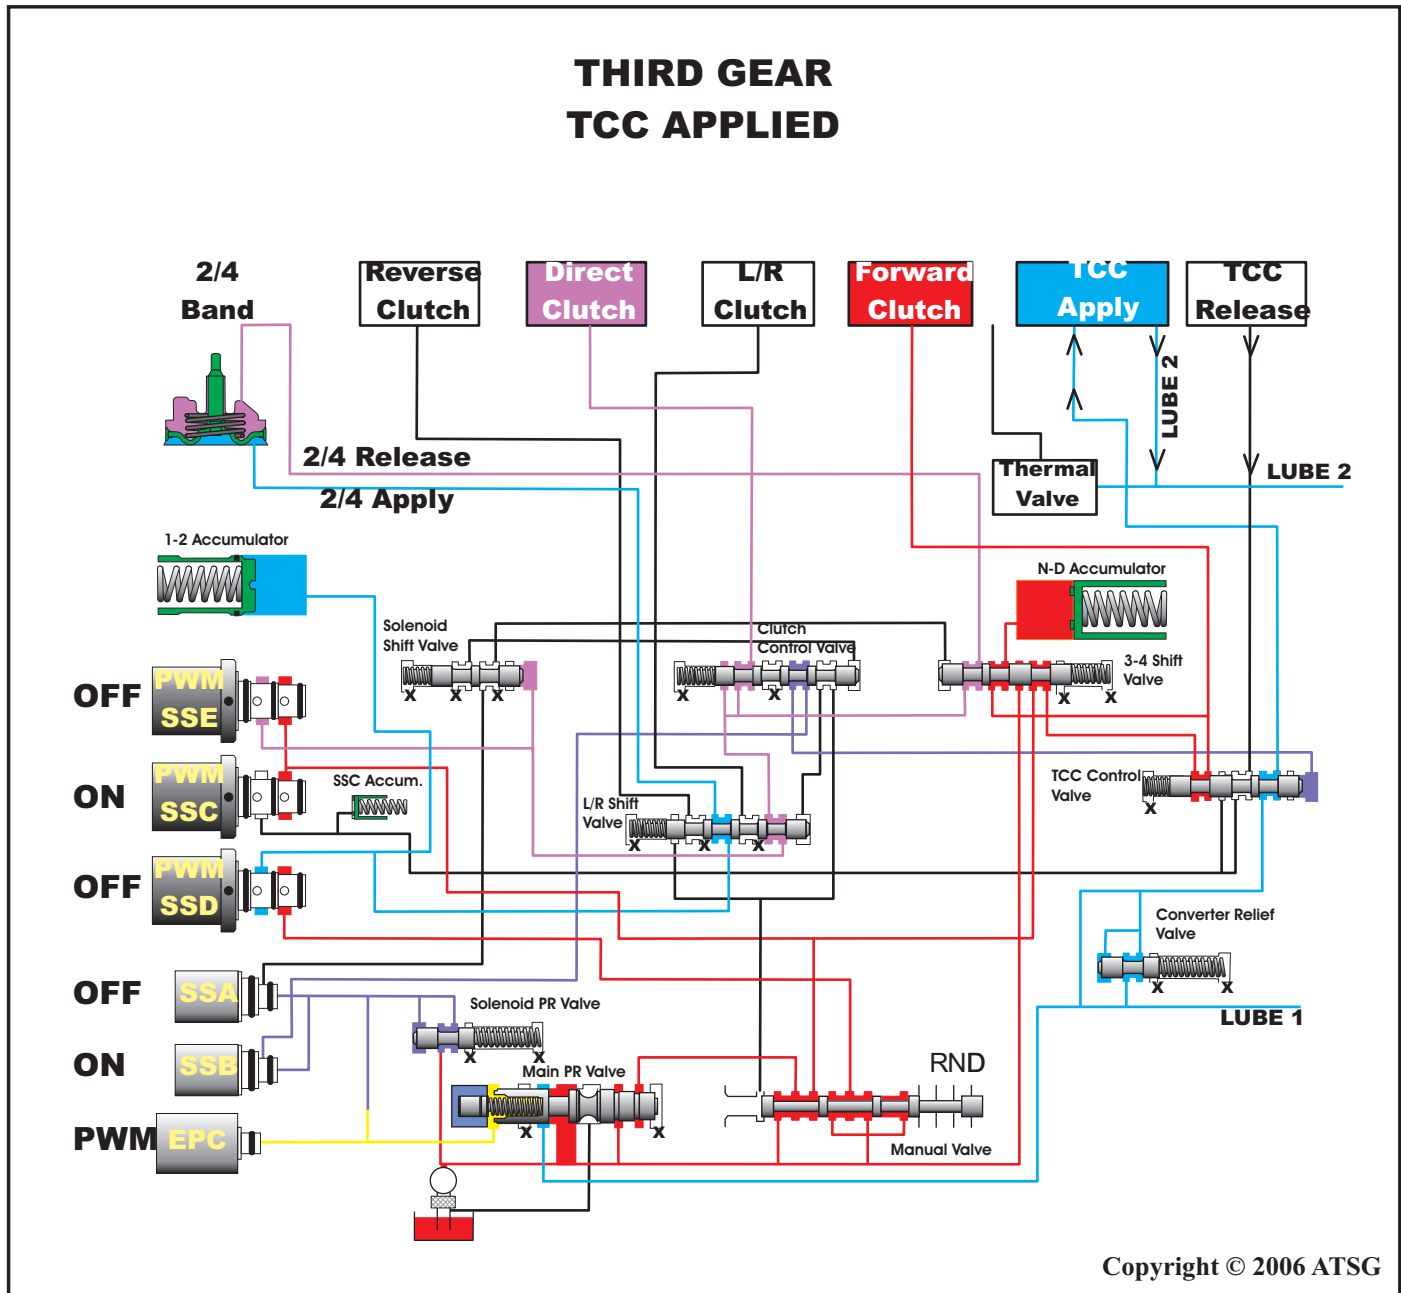

Figure 6
The 4F27E transmission uses (2) ON/OFF solenoids and (3) PWM solenoids to produce each of the shifts and converter clutch apply as the chart in figure 6 reveals. The EPC solenoid is used to control line pressure relative to engine torque. So far this sounds easy but from a strategy standpoint, it progressively moves towards a “different way of doing things” when compared to what we are accustomed to. Lets start off on familiar ground. Shift Solenoids A & B are the ON/OFF solenoids which when they are OFF, block fluid from stroking valves while the Pulse Width Modulated Solenoids, C, D & E are the opposite. When they are OFF they allow fluid to pass through the solenoid and stroke valves. OK, so far not so bad. Sounds a little like the 41TE/42LE transmission with their Normally Applied and Normally Vented PWM - ON/OFF solenoids.